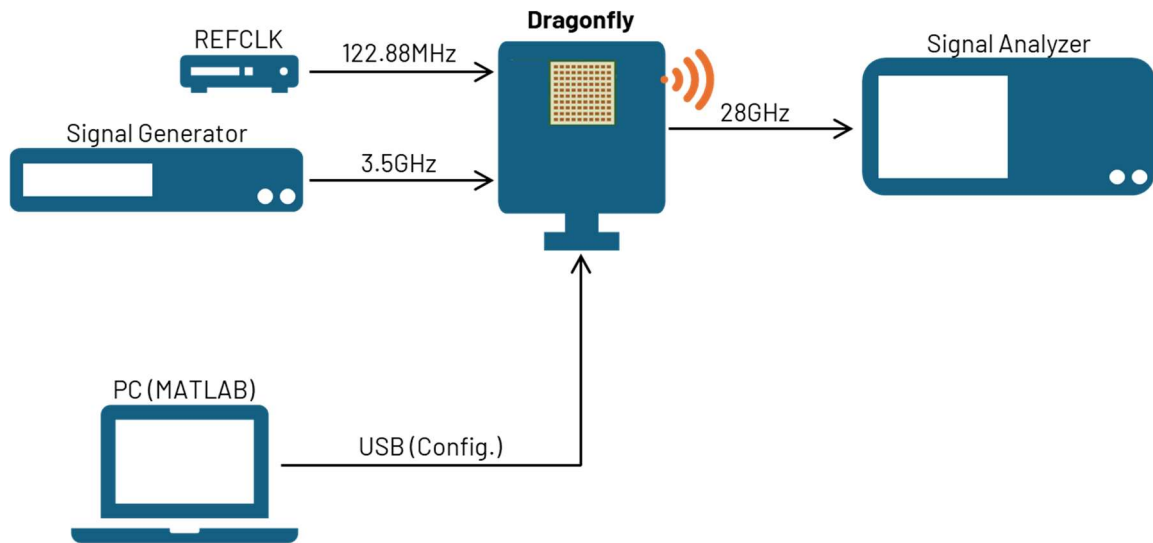
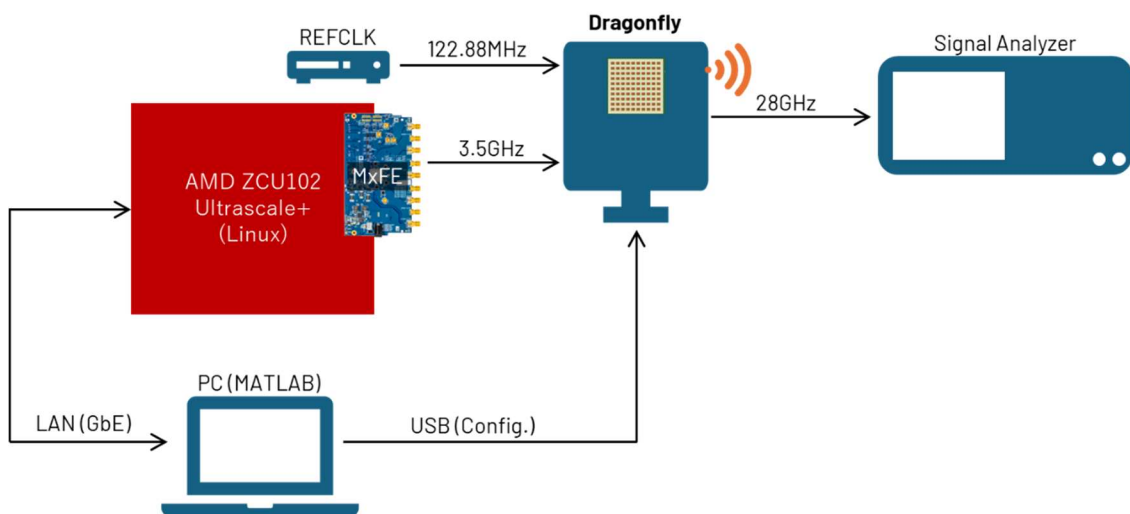

Figure 6. SDK setup for TX test.
Figure 7. SDK setup for TX test.
Figure 6 illustrates a basic setup for testing Dragonfly in TX mode. In this configuration, IF signals are generated by a signal generator (SG), and Dragonfly transmits 28 GHz signals over the air to a spectrum analyzer (SA). The SA receives the RF signals via a horn antenna. Dragonfly requires a 122.88 MHz reference clock. A host PC controls all Dragonfly configurations, including beam index selection, via USB. MATLAB reference code is provided and is available for all Dragonfly users.
Figure 7 illustrates an alternative TX setup for Dragonfly, where MxFE and FPGA boards are used in place of the signal generator (SG) shown in Figure 6. The host PC controls Dragonfly via USB while IF signal waveforms are generated by ZCU102 and MxFE boards with communication between the PC and ZCU102 established over Ethernet. The provided MATLAB reference code supports this setup as well as the Figure 6 setup case.
Figure 9 shows an alternative setup in which MxFE and FPGA boards are used in place of the SA. This setup is suitable for handling FR2 5G waveforms, and the SG must be capable of generating FR2 5G waveforms accordingly as well as Figure 7 setup case.